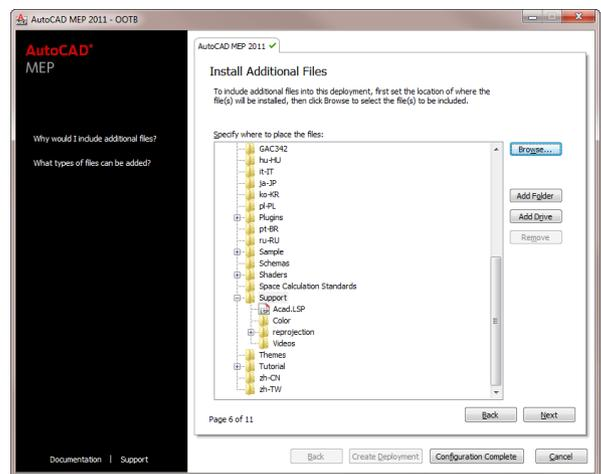

Figure 3: Add Acad.lsp to deployment
2. Add Acad.lsp to the Support folder (see Figure 3).